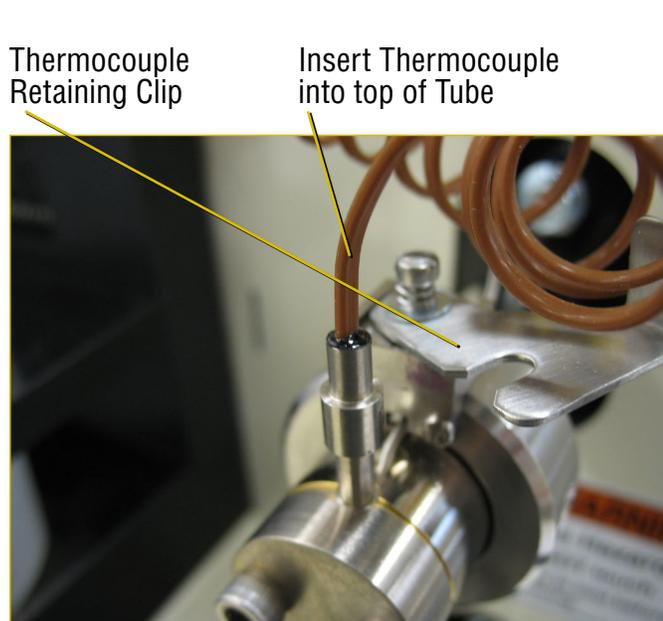

Figure 26a Thermocouple Retaining Clip
24. Plug in the heater tube thermocouple. Carefully insert the thermocouple tip into the hole on the top of the heater tube and lower until it stops. Rotate the thermocouple retaining clip to the left to lock the thermocouple into place [Figure 26a and 26b].